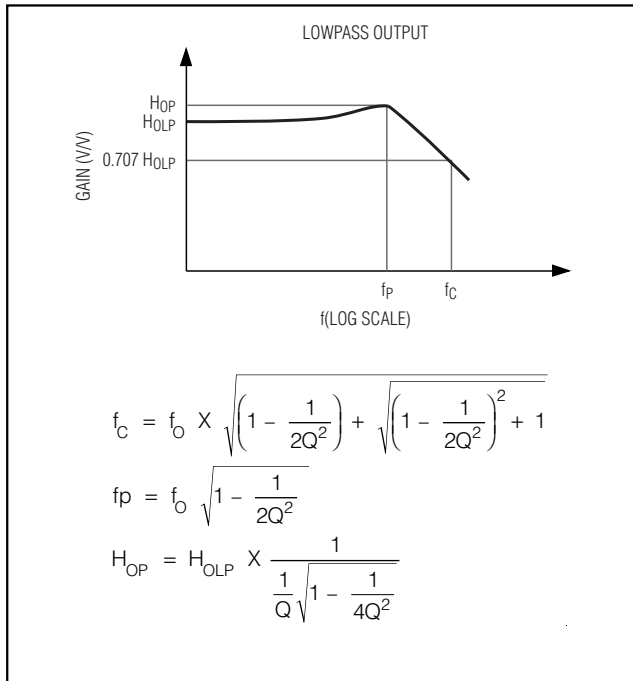

Figure 13. Second-Order Lowpass Characteristics
**LOWPASS** See bandpass text. (Figure 13)